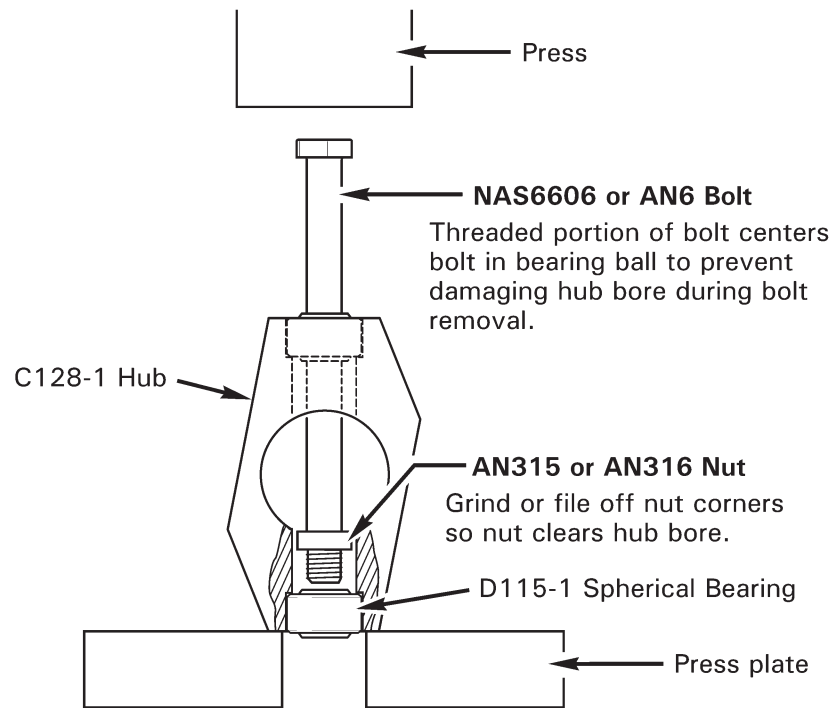

FIGURE 30-10 SPHERICAL BEARING REMOVAL
3. Refer to Figure 30-10. Press bearing(s) from hub as shown.